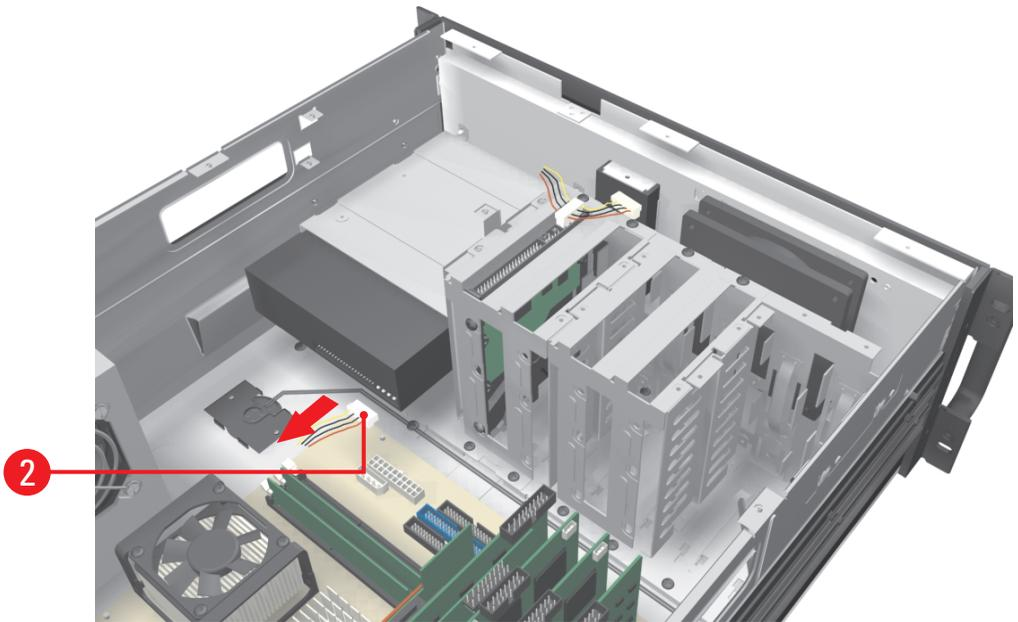

Figure 8. Removing the CD/DVD Power Connector
2. Remove the power connector from the CD/DVD drive. Refer to Figure 8.